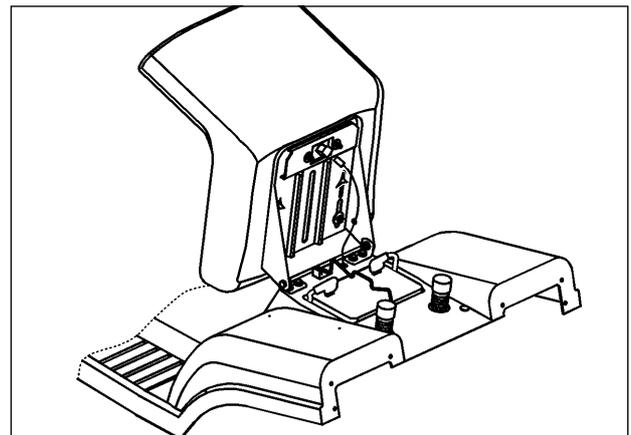

Fig. 8
The battery is placed under the seat, and can be accessed by tilting the seat in the upright position (Fig. 8).
4. Reinstall the battery and secure it with the spring lever (see fig. 8).